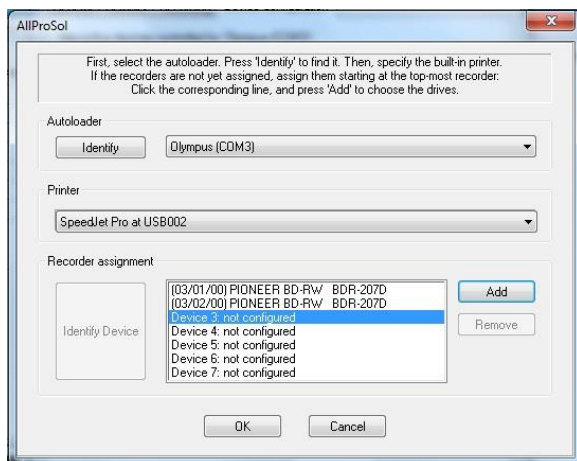

fig.4
- Under Printer, select the “SpeedJet Pro” printer you just installed. (fig.4)
- Under “Recorder Assignment”, you can add or remove the number of active drives depending on your configuration. Select “Add” on the right to choose from the list of drives connected to your PC. Be sure to only select the drives that are part of the Apollo and not your PC’s drive as well. (fig4)
- By pressing “Identify Device” the selected drive will open and close. Press Apply to save.(fig.4)